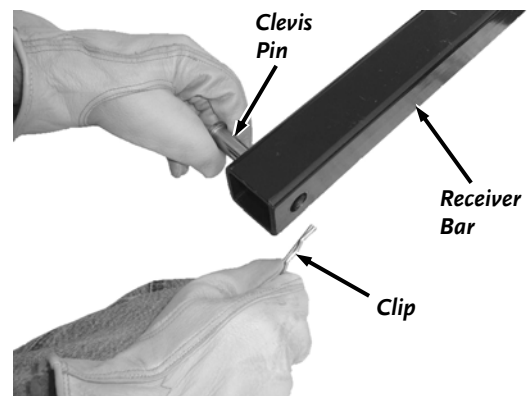
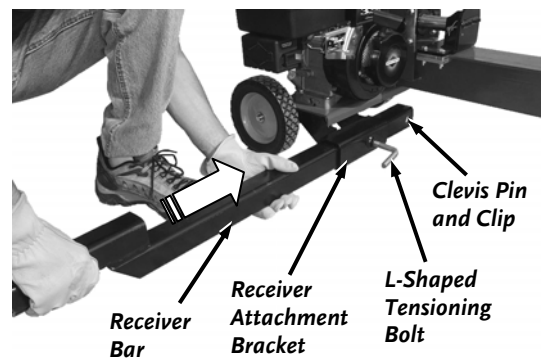

Figure 38
Figure 39
5. Make sure you remove the Clip and Clevis Pin from the adjustable Receiver Bar (**Figure 38**), then insert the long straight end of the Bar into the Bracket (**Figure 39**).